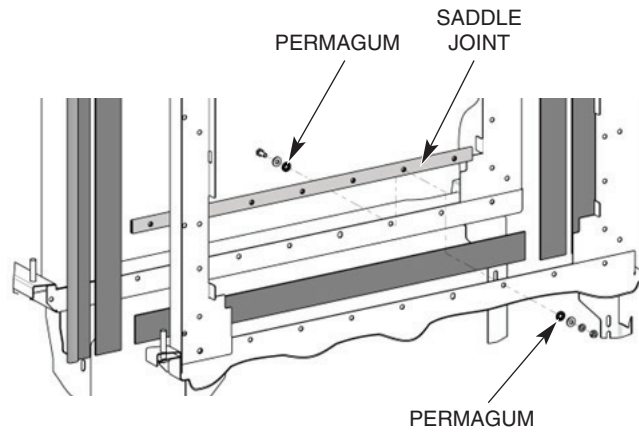

Fig. 13
5. Use Permagum on insides of washers on both sides to make an adequate seal (Fig. 13). You may have to use a C-clamp on the saddle to get the hardware started.